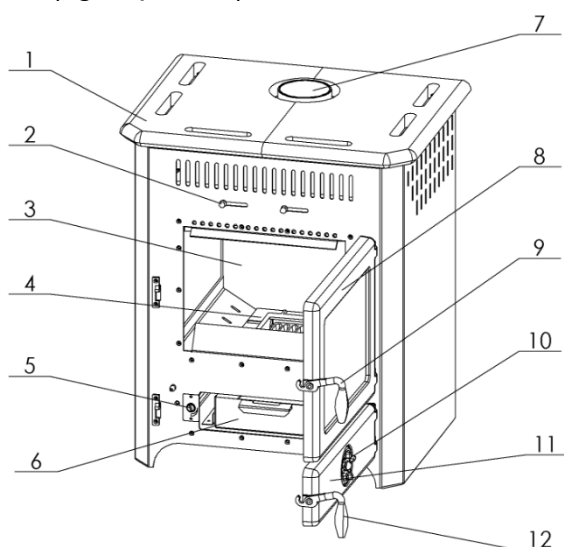

Fig. 1. Integral parts of SD Thermo Vulkan
Solid fuel stove for central heating **SD THERMO VULKAN** is produced and tested according to the European standard EN 13240. On figure no. 1 given in the introduction page, layout of the stove with integral parts important for handling is displayed. Floor oven SD Thermo Vulkan has boiler of 24 liters capacity which is made of boiler sheets with standard thickness. With production like this, life span of the boiler increases. Water connections are 1". Working area is consisted of cast plate (fig. 1, pos. 5) with smoke exhaust connection (fig. 1, pos. 7) which is mounted on the plate with two screws. Firebox area is built with bricks made of vermiculite. Firebox door (fig.1, pos.8) are made of cast iron and has transparent glass. Ashtray door (fig.1, pos.11) are made of cast iron and has manual air flow regulator.